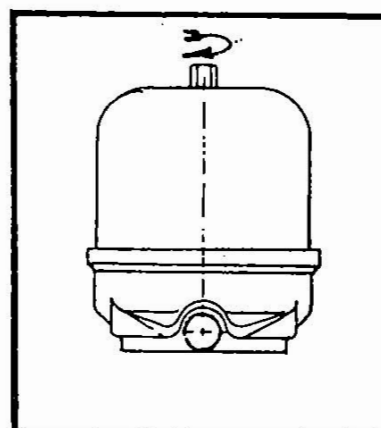

Fig.3.17
6. Close cleaner's cover and tighten top nut (Fig.3-17).